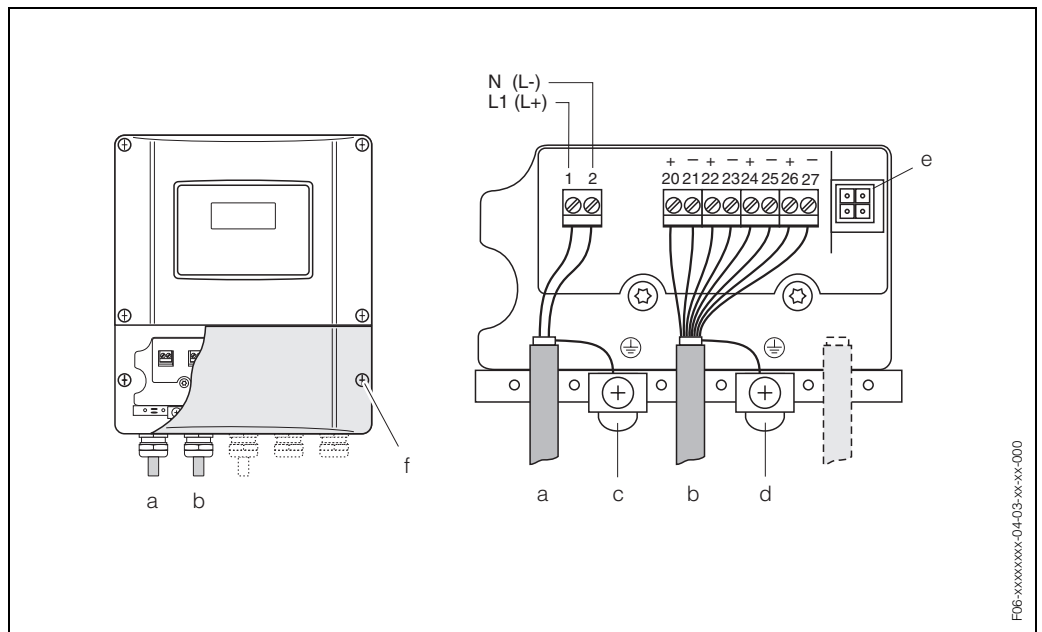

Fig. 34: Connecting the transmitter (wall-mount housing). Cable cross-section: max. 2.5 mm²
- Wiring diagram (wall-mount housing) → Fig. 34